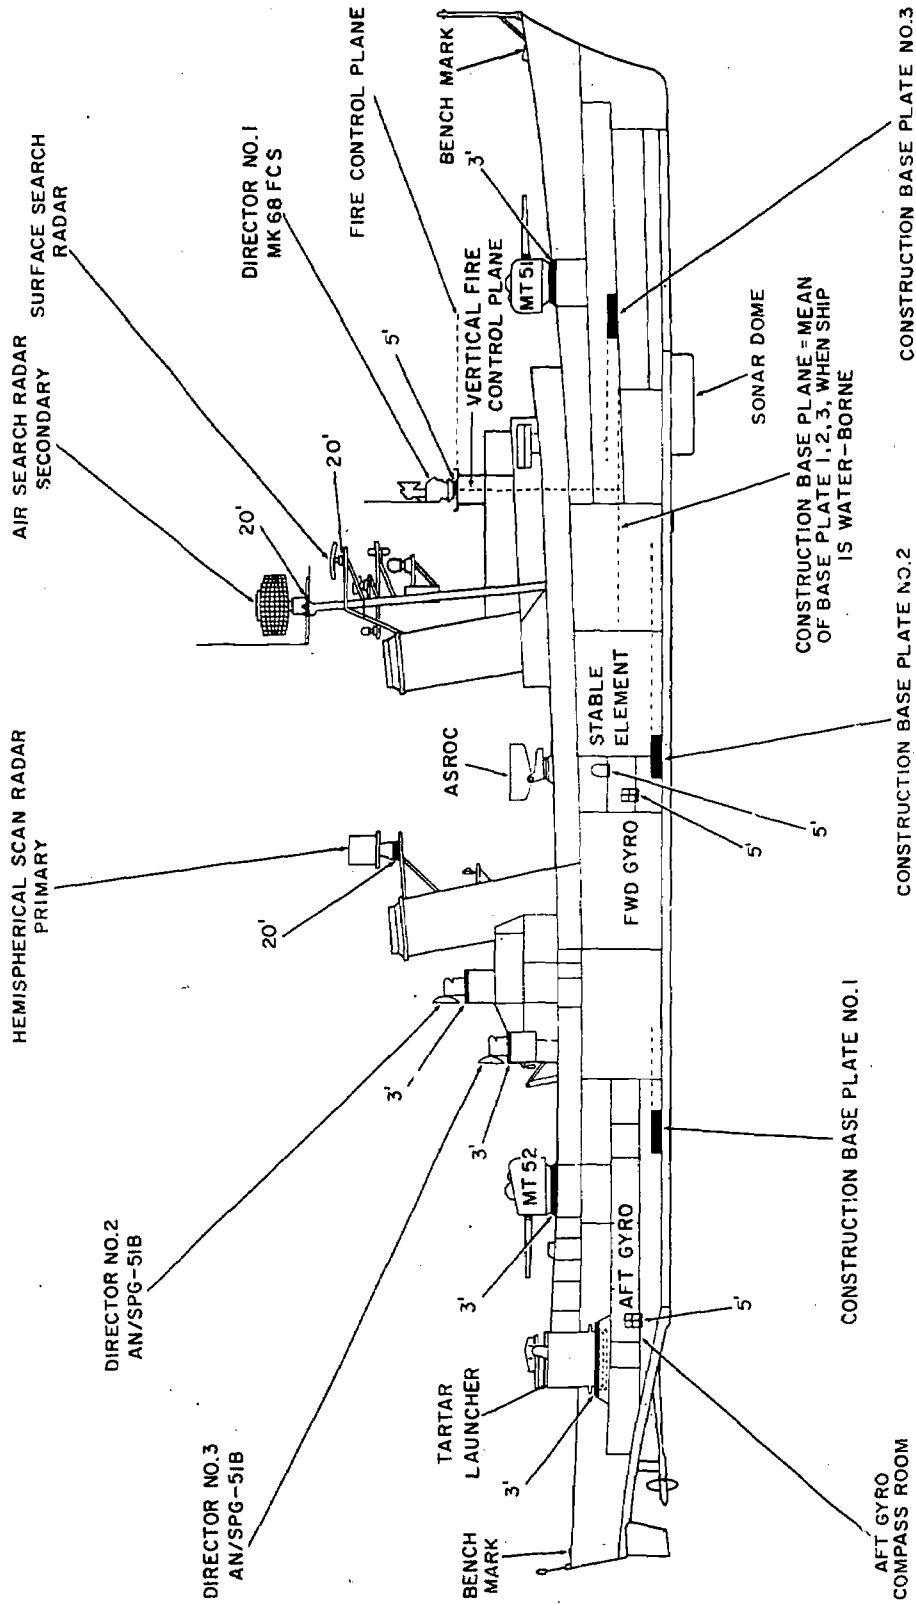

Figure 9-23.—Mechanical Foundation Tolerances.
During the construction of a ship, one or more base plates (fig. 9-23) are installed within the hull of the ship. These plates are referenced to a similar plate mounted on a fixed ground installation. The plates are leveled as accurately as possible before the ship is launched. An imaginary base plane is figured from the averaged readings taken from the base plates. The fire control reference plane is parallel to the construction base plane and is the reference from which all system elements are aligned. A vertical plane perpendicular to the fire control reference plane and lying along the ship's centerline is the zero train reference for all system elements.
**BENCH MARK.**—For purposes of checking director's zero train at sea, a bench mark and bench-mark reading are established. The bench mark usually is a small brass plate with crosslines etched on it. This plate (fig. 9-23) is welded to a secure part of the ship within vision of the director's sights. After zero director train has been established and the dials set, train the director and put the crosswires of the boresight or telescope on the bench mark, and read the train angle-read dials. This is the bench-mark reading which should be recorded, and which will remain the same until such time as new drydock data are obtained. The same telescope must be used for obtaining all settings and readings. The launcher is trained to position its rails parallel to
the zero train reference plane and the train indicators are adjusted to the indicated zero train. Then the launcher is elevated to position its rails parallel to its roller path plane and all elevation indicators are adjusted to indicate zero elevation. The maximum amount of deviation permitted for each element is shown in figure 9-23.
**ELEVATION HORIZON CHECK.**—The elevation horizon check provides an accurate method of determining elevation alignment errors between elements under normal operating conditions and a method of determining the relative inclination between the roller paths of the reference and nonreference elements while the ship is afloat. The aft missile director (no. 3, fig. 9-23) is used as the reference element for the Mk 11 Tartar missile launcher and the Mk 19 gyrocompass.